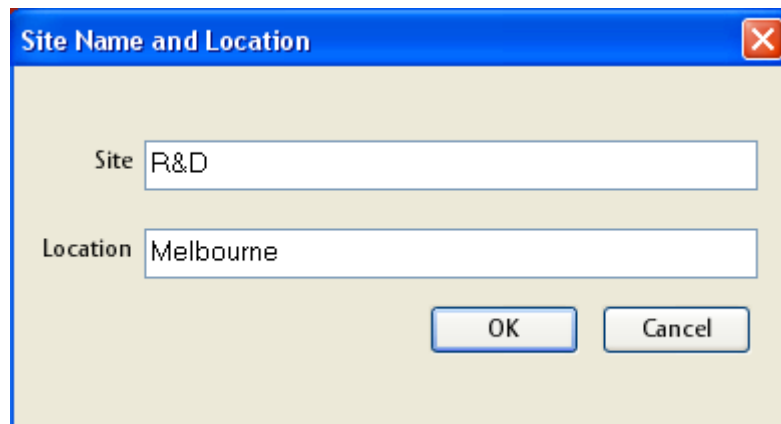

Figure 8: Site Name and Location
- Enter new or existing site name and location, and click “ok”. Refer figure 8.